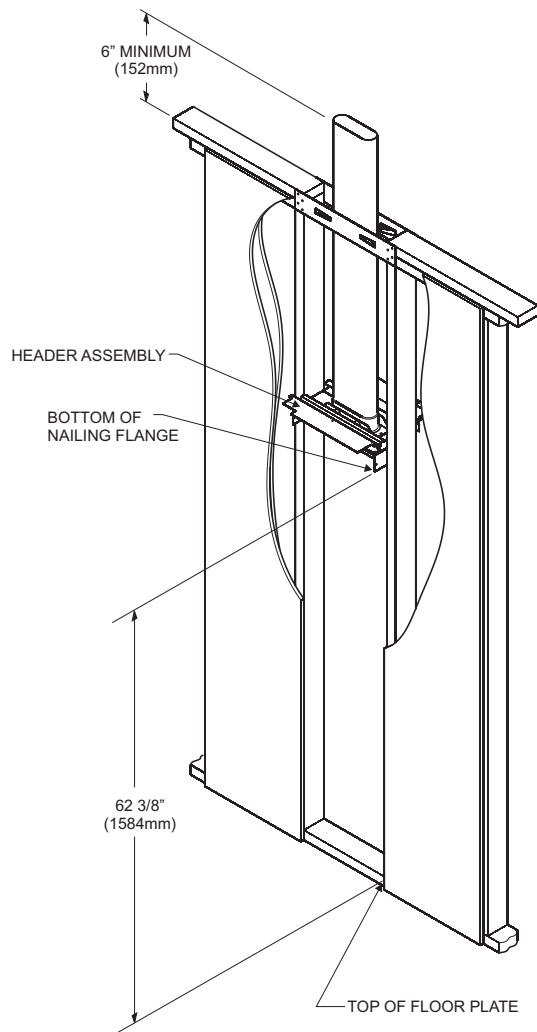

Figure 18
7. Position header plate at height shown in Figure 18.